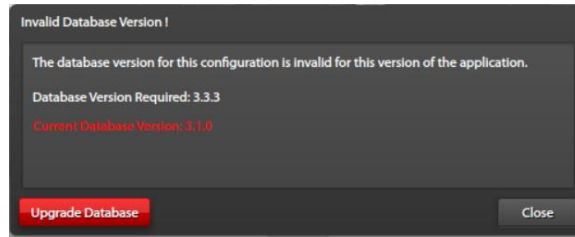

Figure 8. Invalid Database Version
**NOTE:** If the selected file was created in an earlier version of the E3 Console application, the INVALID DATABASE VERSION warning screen (see Figure 8) displays. The E3 Console can upgrade the configuration database to the correct version. The versions will change incrementally with the release of new software.